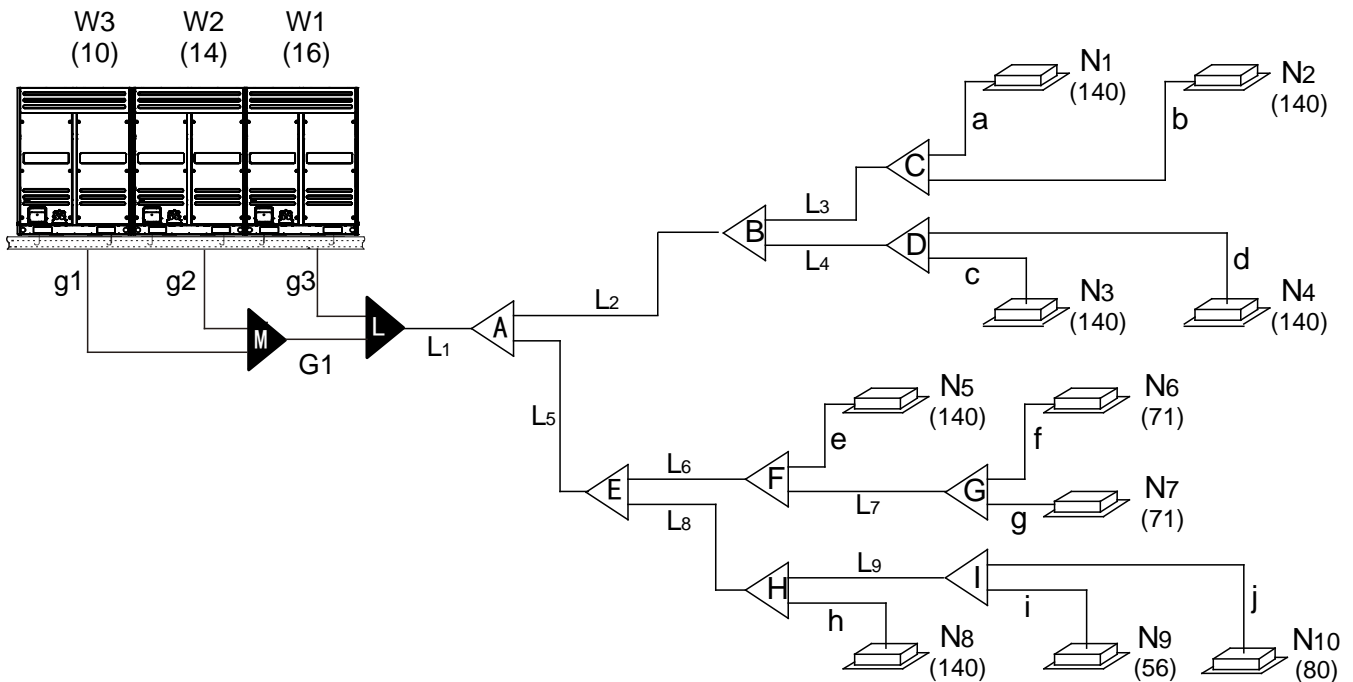

Figure 4-2
Note: In Figure 4-2, the capacity unit of indoor side is (×100W), and the outdoor side is HP.
E.g. The pipe (a ~ j) in Figure 4-2.
E.g. The branches (A ~I) and indoor main pipe (L2~L9) in Figure 4-2.
E.g. The main pipe (L1) in Figure 4-2.
E.g. The branch (L, M) and outdoor unit pipe (g1, g2, g3, G1) in Figure 4-2.